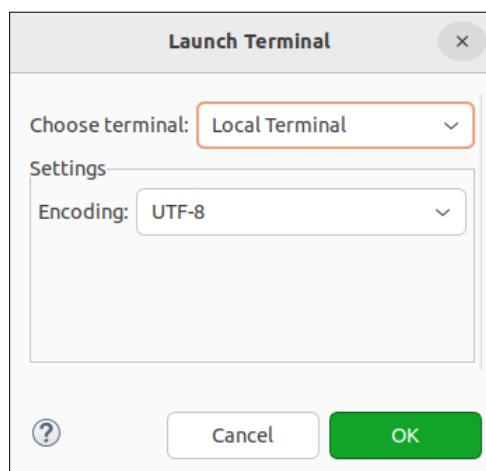

Figure 3.48. Launch Terminal Dialog 2
2. In the Terminal view, click the **Open a Terminal** icon . The **Launch Terminal** dialog opens (Figure 3.48).